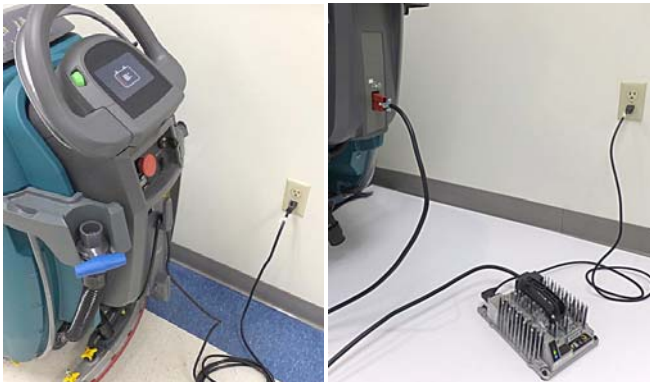

FIG. 107
13. Charge batteries (Figure 107). See BATTERIES.